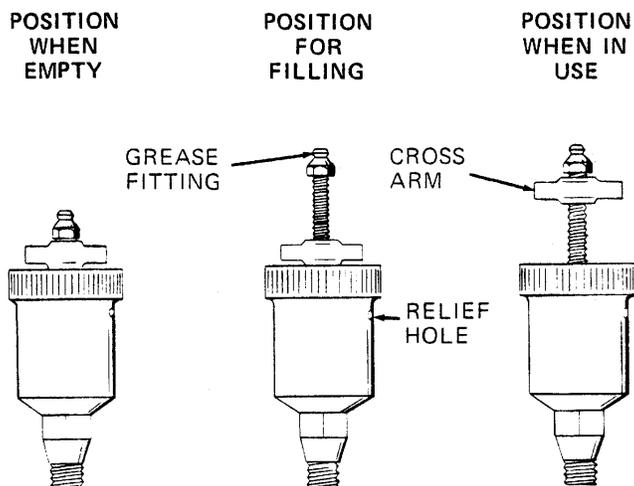

Figure 3. Automatic Lubricating Grease Cup
Before removing the seal assembly, turn the cross arm on the seal grease cup (19) clockwise until it rests against the cover (see figure 3). This will prevent the grease in the cup from escaping after the seal is removed.
Before starting the pump, fill the grease cup through the grease fitting with a good grade of No. 2 pressure gun grease until grease escapes from the relief hole. Turn the grease cup arm counterclockwise until it is at the top of the stem; this will release the spring to apply the grease to the seal (see figure 3).